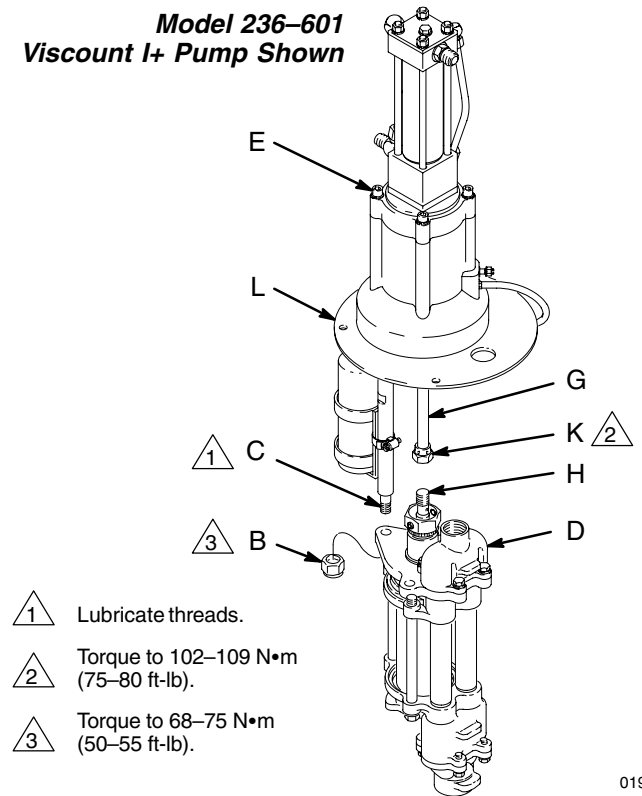

Fig. 7
Unscrew the coupling nut (K) of the coupling rod (G) from the piston rod (H). Unscrew the locknuts (B) from the tie rods (C). Pull the displacement pump (D) off the motor (E). See Fig. 7.
Orient the displacement pump (D) to the motor (E) and adapter plate (L) as shown in Fig. 7. Position the displacement pump (D) on the tie rods (C). Lubricate the threads of the tie rods. Screw the locknuts (B) onto the tie rods loosely. Screw the coupling nut (K) onto the piston rod (H) and torque to 102–109 N•m (75–80 ft-lb). Torque the tie rod locknuts to 68–75 N•m (50–55 ft-lb).